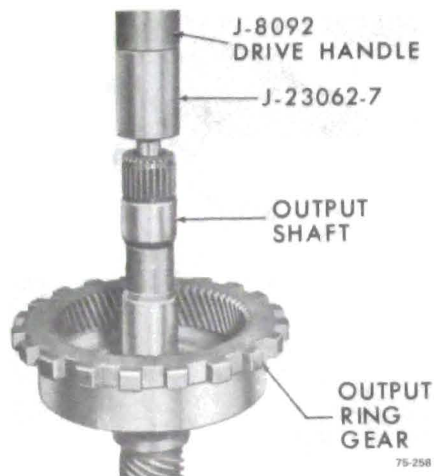

Figure 75-118B
b. Using Tool J-23062-7, assembled into Drive Handle J-8092, press in new bushing .140" below end surface of shaft. See Figure 75-118B.